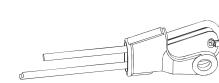

Figure 4
- Secure rope to SUPER TERMINATOR Wedge with clamp (See Figure 4).